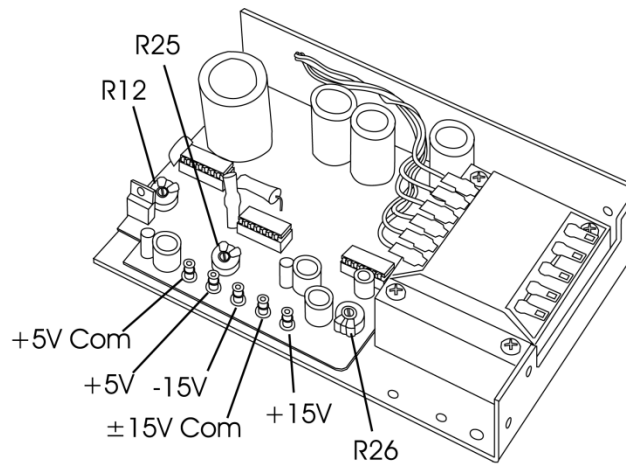

Figure 6.5. Power Supply Adjustment Potentiometers.
4. Refer to figures 6.5 and 6.6 to verify which 5/15V Power Supply has been installed in the 3100A HFOV. The Power Supply is located immediately below the oscillator drive electronics.